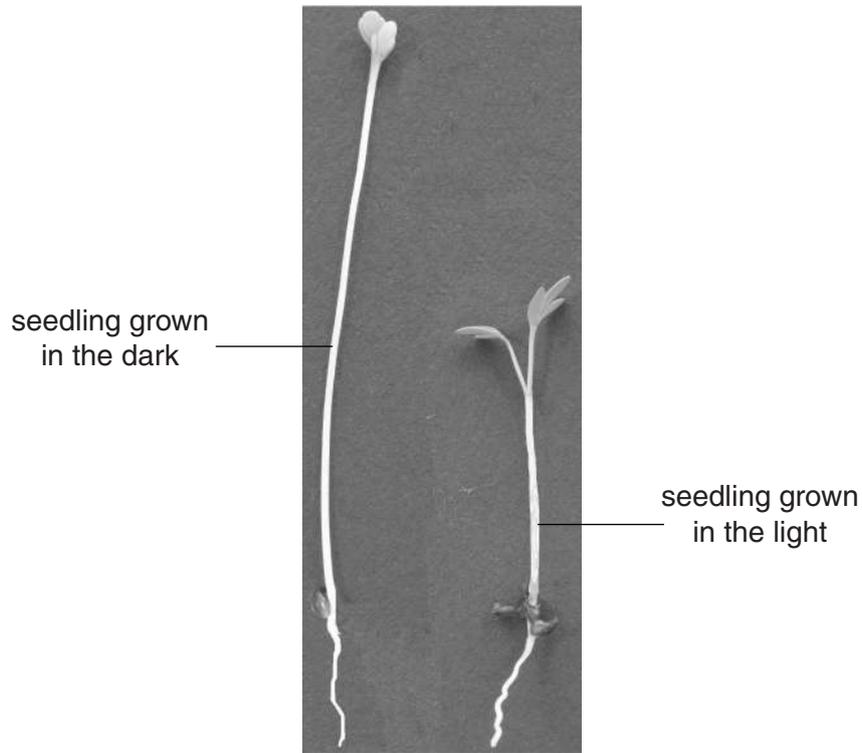

Fig. 3.1
- 3 Fig. 3.1 shows two germinating cress seedlings on the same scale. One seedling was grown in the light; the other seedling was grown in the dark.